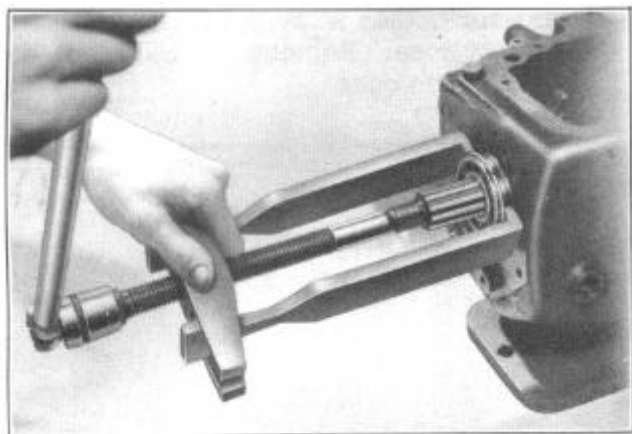

FIGURE 7
15. Pull bearing from mainshaft with puller J-1134-H, Figure 7.